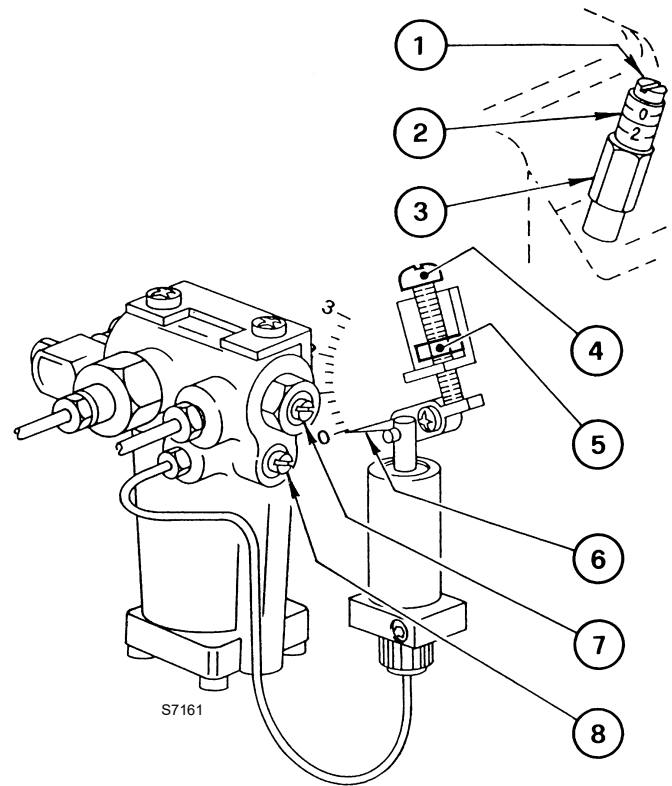
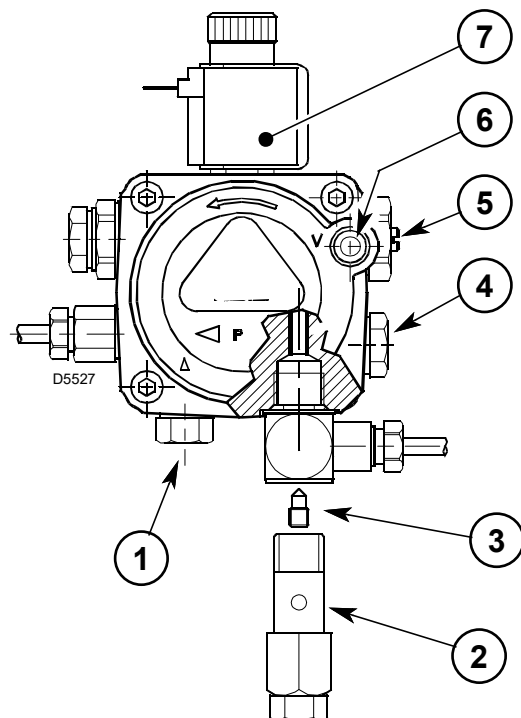

Fig. 12
Fig. 15
Unscrew the screw 8)(Fig. 12) by about 1 turn, in this way the burner remains permanently with the low flame. Loosen the nut 5)(Fig. 12), adjust the screw 4)(Fig. 12), and bring the indicator 6)(Fig. 12) to the required position. Then lock the nut 5)(Fig. 12) and tighten the screw 8)(Fig. 12).
It is set in the factory at 9 bar. The pressure gauge for checking pressure should be fitted in place of the plug 4)(Fig. 15). If necessary recalibrate the pressure, or if you prefer change it, just turn the screw 7)(Fig. 12), always after first unscrewing the screw 8)(Fig. 12).
Loosen the nut 3)(Fig. 12), turn the screw 1)(Fig. 12) until the indicator 2)(Fig. 12) is at the required position. Then lock the nut 3)(Fig. 12).
It leaves the factory set at 12 bar. The pressure gauge for checking pressure should be fitted in place of the plug 4)(Fig. 15).
If necessary recalibrate the pressure, or if you prefer change it, just turn the screw 5)(Fig. 15). When the burner stops, the air damper automatically closes, up to a max. flue depression of 0.5 mbar.
The suction line plug 1)(Fig. 15) is made of plastic. Once removed, it must not be used again.
The pump has a delivery pressure regulation device 4)(Fig. 15). Pressure increases if turned in a clockwise direction, and decreases if turned in the other direction.
- If necessary, recalibrate the pressure using the screw 5)(Fig. 15).
In order to obtain one pipe working it is necessary to unscrew the return line plug 2)(Fig. 15), remove the by-pass screw 3)(Fig. 15) and then screw the plug 2)(Fig. 15) in again at a tightening torque of 0.5 Nm.
In the system of Fig. 16 just loosen the connection of the vacuumeter 5) (Fig. 15) and wait for the fuel to come out.